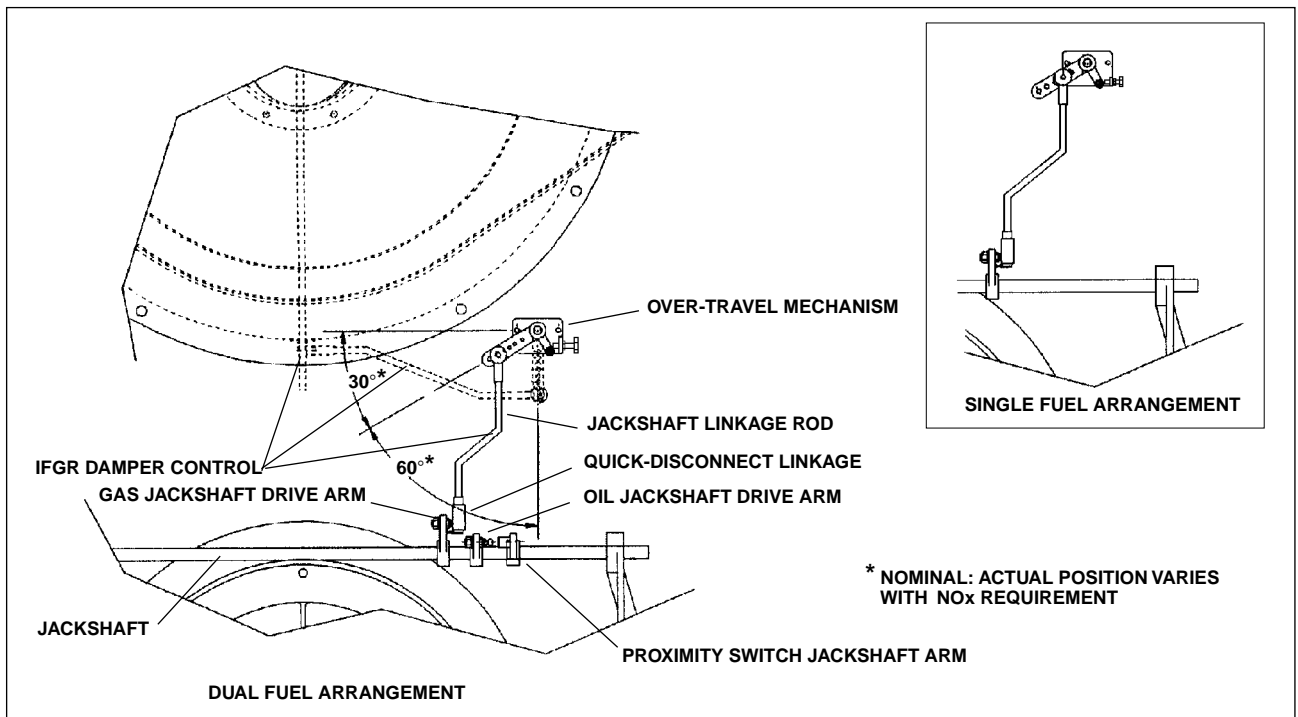

Figure: 1-15 IFGR Damper Linkage
2. IFGR Damper Linkage (Figure 1-15). The IFGR damper is positioned by the control linkage. The linkage could consist of a single arm, or it could consist of several arms driven from the jackshaft to provide modulating control (see Figure 1-15).
4. Fuel Change-Over Linkage (Figure 1-15). When a boiler is equipped to fire either gas or oil (dual-fuel boilers), and the required NO_x levels are below 60 ppm on natural gas, a dual-linkage arrangement is used to provide the different recirculation rates required for each fuel. Two jackshaft drive arms are provided, one for oil and one for gas. The linkage is manually connected to the appropriate arm, based on the fuel being used.